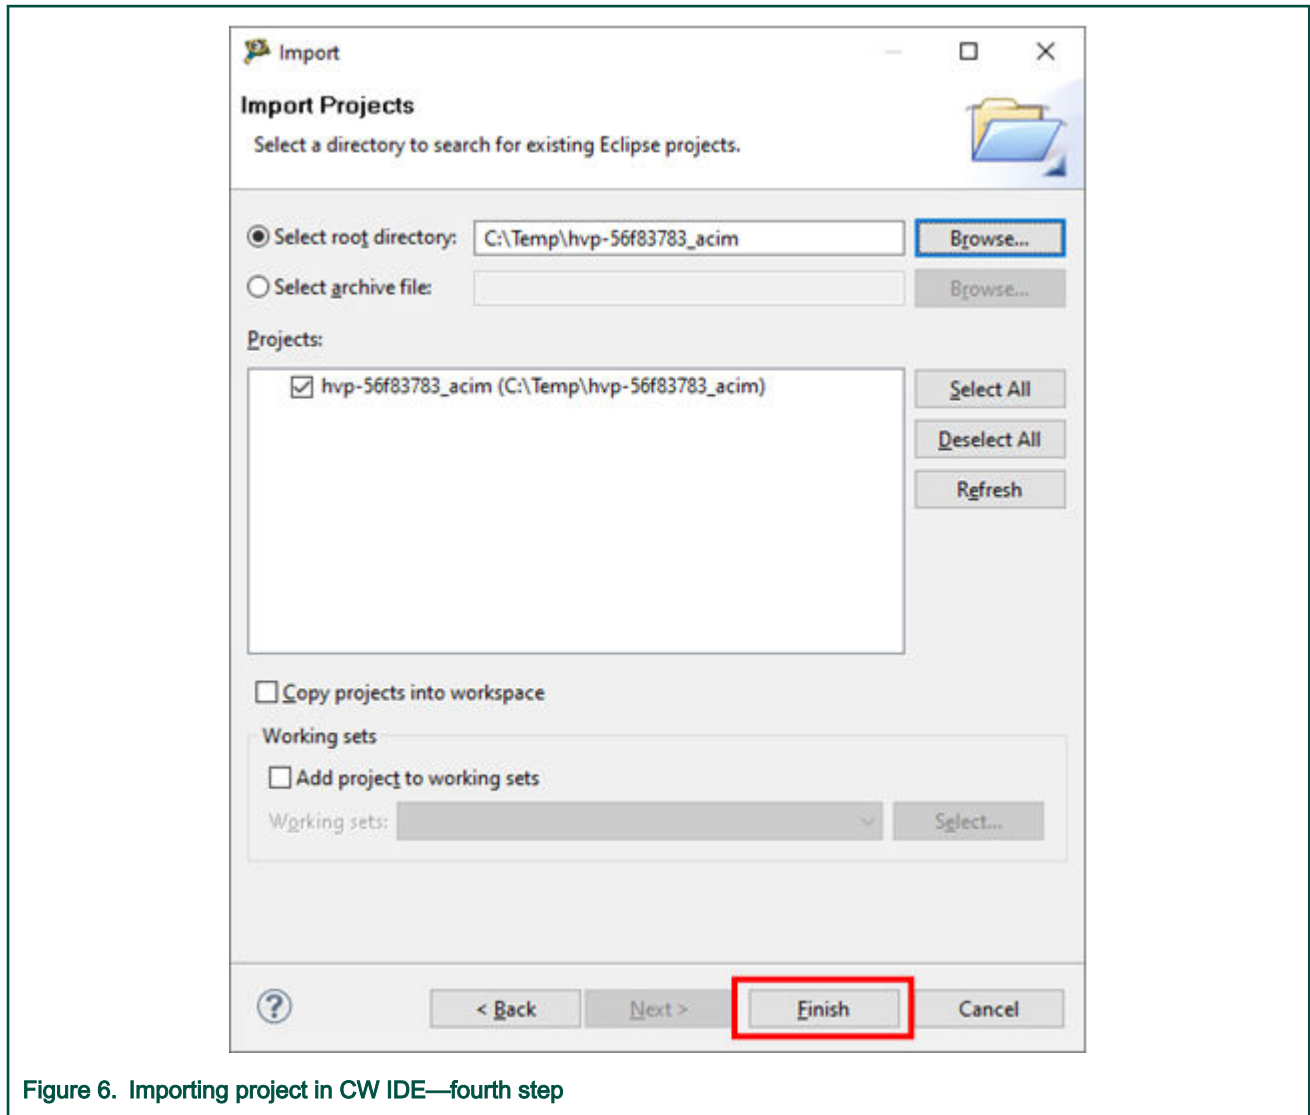

Figure 6. Importing project in CW IDE—fourth step
- Confirm the selection by clicking “Finish”, as shown in Figure 6: